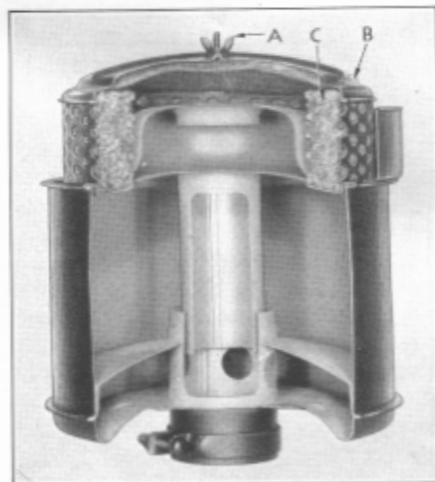
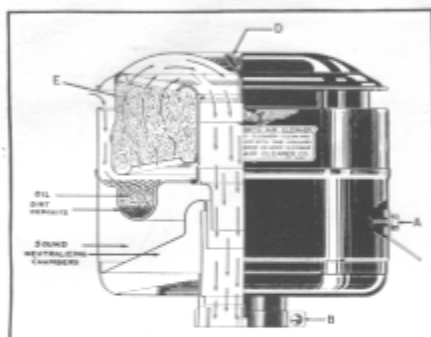

Figure 11
Figure 12
Two types of carburetor air cleaners are available. The standard type is illustrated in Figure 11, and the oil bath type recommended for cars operating constantly on gravel or dusty roads and in dust areas is shown in Figure 12.
Service this type cleaner, Figure 12, by removing the complete unit from the engine by first removing brace nut (A) and loosening clamp screw (B). Remove wing nut (D), lift off cover and filter unit (E), and if necessary wash filter unit in kerosene and blow dry. Remove old oil from sump and clean with kerosene. Refill sump with one pint of new engine oil same grade as used in engine. Check filter unit gasket, reinstall filter unit and cover and install wing nut. Reinstall air cleaner on carburetor and tighten clamp screw and install brace.